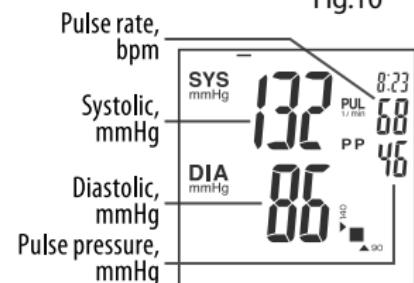

Fig.11
5. Air is released from the cuff and measured values are displayed as measurement completes (fig.11).